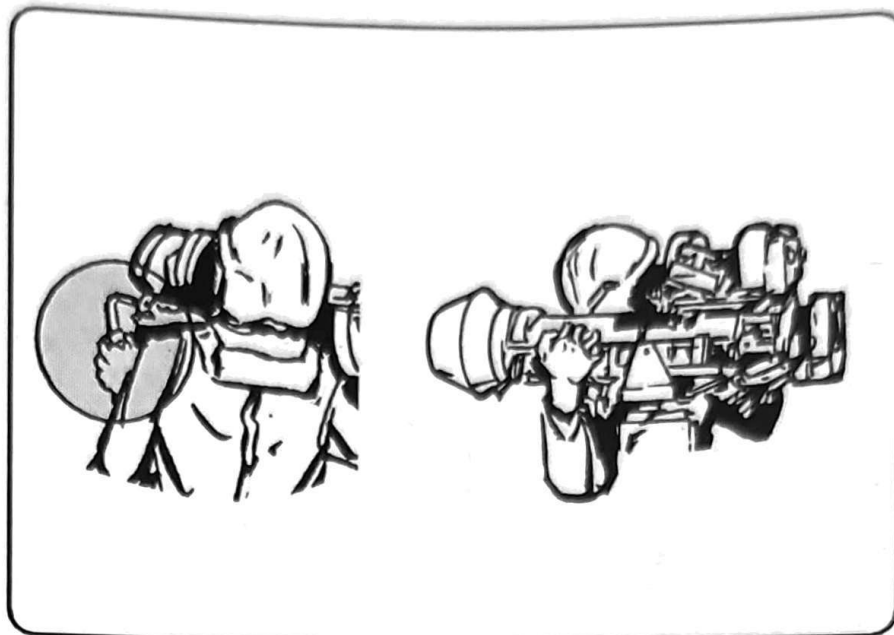

Figure 7-9. M175 firing position.
(1) Adjust the commander's chair in the APC so that when the gunner is in the firing position, both feet are flat on the chair with knees and body straight.
(2) Keep the feet apart at a comfortable angle.
(3) Ensure that the left arm and hand exert maximum rearward pressure on the elevation damper. This action pulls the cradle down against the gunner's shoulder (Figure 7-9).
(4) Position the right hand on the M175 mount firing mechanism the same as with the tracker firing mechanism: right thumb on safety; index, middle, and third fingers on the trigger lever; and the little finger forward of the trigger mechanism.